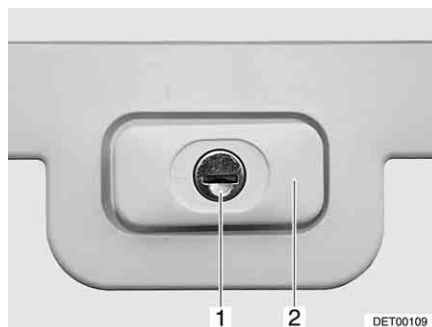

Fig. 31 Flap lock, rectangular, closed
- Insert key into locking cylinder (Fig. 31,1) and turn a quarter turn. The lock handle (Fig. 31,2) snaps out.